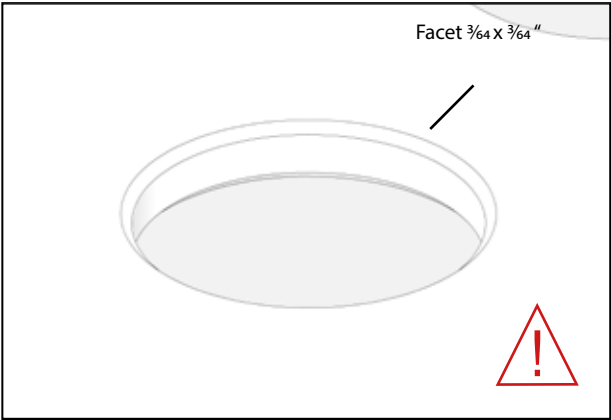

Fig. A3
- Create a very small $\frac{3}{64} \times \frac{3}{64}$ inches facet on both the upper and lower edges of the cutouts (Fig. A3).